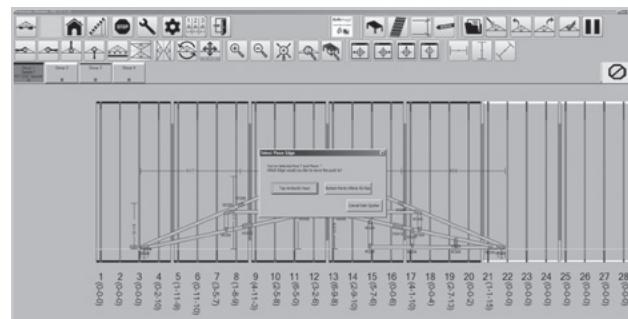

Figure 50
3. A pop up box appears with two options: Top or Bottom edge (Figure 50)